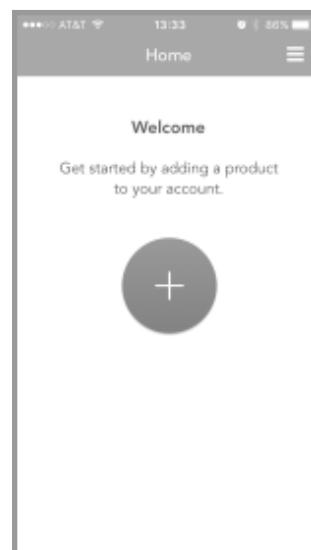

Figure 23
5. If this is the first Kenmore® Smart product to be added to your account, the app will guide you step by step through adding your new product and the connection process (Figure 23).